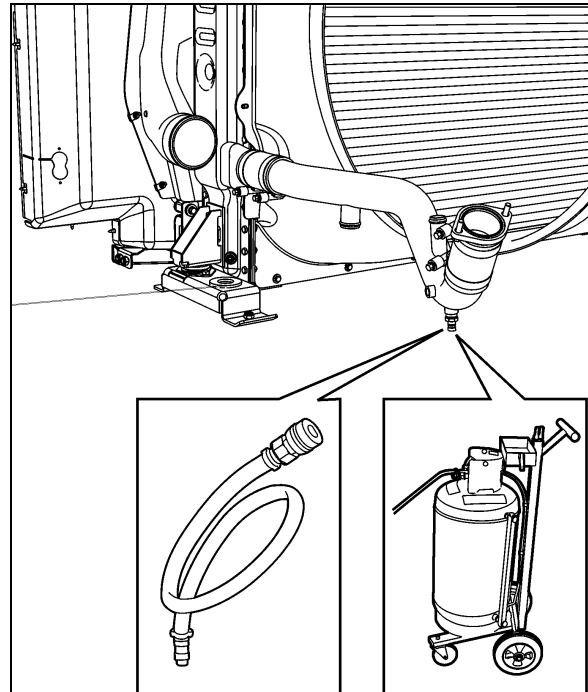

FIGURE 16: EXTRACTING COOLANT 05093
5. Connect coolant extractor (Figure 16). Use coolant extractor to drain the coolant from the engine. An alternate method is to drain the coolant into a suitable container using the drain hose.